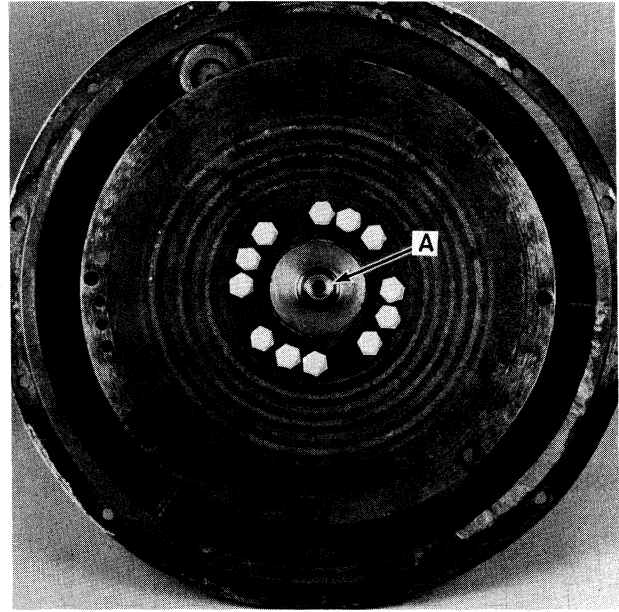

FIGURE 5A-30
13. Coat pivot pin, A, Figure 5A-29, with antiseize compound. Install pivot pin, A, into housing, B, until a depth of $4\frac{7}{8}$ " (124 mm) is achieved. Tighten setscrew, C, and jam nut, D.